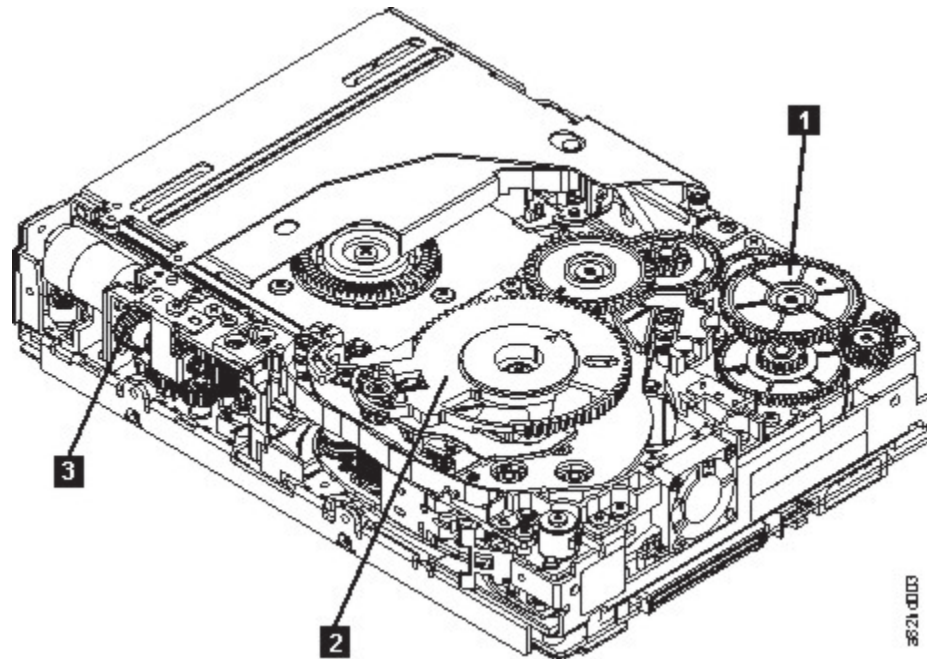

Figure 21. Drive with cover removed to reveal gear train.
4. Locate the threader intermediate gear (**1** in Figure 21 on page 83) near the rear of the drive. You can use your finger to rotate the threader intermediate gear (**1** in Figure 21 on page 83) and slowly rotate the threader mechanism gear (**2** in Figure 21 on page 83) clockwise.
5. As the leader pin is secured in the cartridge, you hear the leader pin retention spring clips click into place. If you do not hear the click, continue rolling until the threader intermediate gear (**1** in Figure 21 on page 83) stops. The LBA is in the correct position.
6. Rotate the loader motor worm gear (**3** in Figure 21 on page 83) clockwise as viewed from the front of the drive until it stops. This action releases the LBA leader pin.
7. Rotate the threader intermediate gear (**1** in Figure 21 on page 83) counterclockwise until the leader block is in front of the read/write head. This action moves the LBA out of the cartridge.
8. Rotate the loader motor worm gear (**3** in Figure 21 on page 83) counterclockwise as viewed from the front of the drive until it stops.